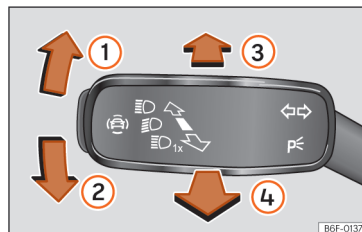

Fig. 97 Turn signal and main beam lever.
- From the base position, press the turn signal and main beam headlights lever forwards »» Fig. 97 .
- **OR:** if the main beam assist is on, pull the turn signal and main beam headlight lever backwards »» Fig. 97 .